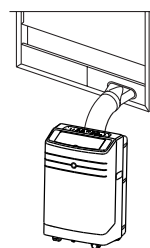

Figure 8
2. Install the flexible exhaust hose and the adjustable window slider kit as depicted in Figures 8 and 9.